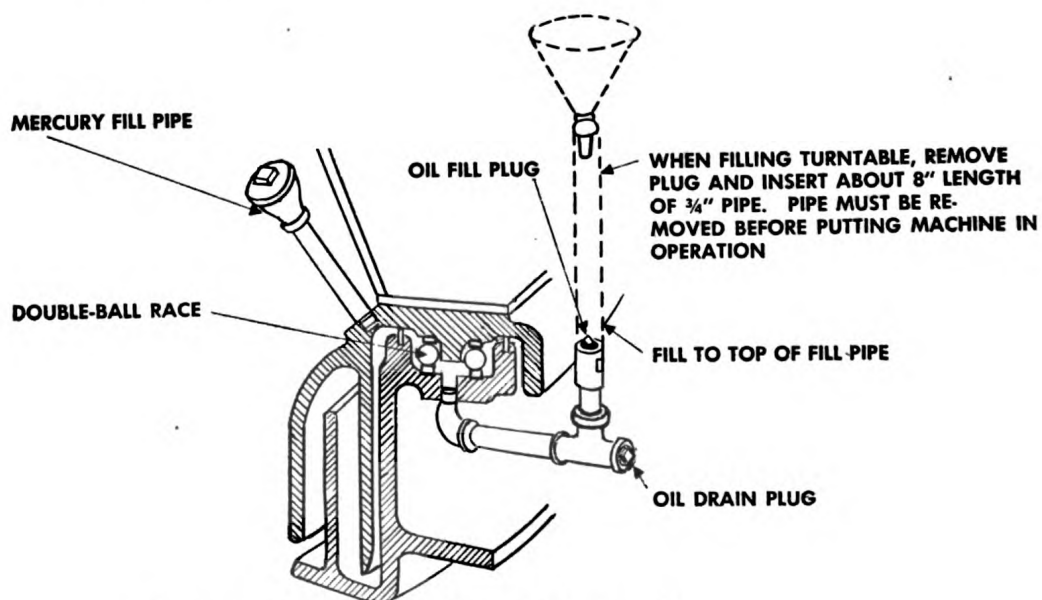

Figure 34. Dorr double-ball turntable, type KC.
For illustration of Dorr type-KC distributor, see figures 34 and 35.
a. SERVICE TURNABLE BEARING. Flush out turntable bearing thoroughly to remove grease or grit from balls and raceway. Pour kerosene into oil fill cup, revolve machine several times, and open drain plug to let kerosene flow out. Replace drain plug and refill with oil to level marked on oil indicator. (See fig. 34.) Use NS 2190 in summer and NS 2110 in winter.